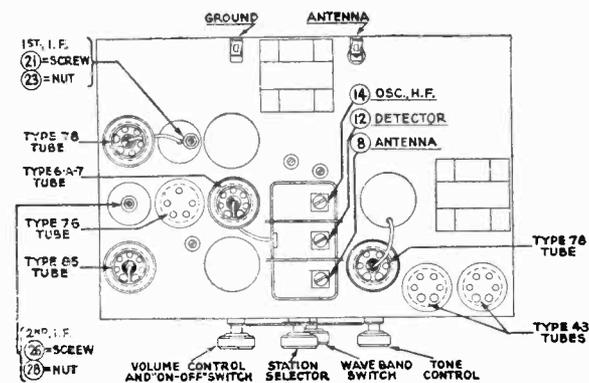

Fig. 2—Top View
Set the wave switch of the Signal Generator at 260 K. C., and the dial of the receiver at 550. Turn on the set (volume full on), and the Signal Generator. Now adjust the 1st I. F. Primary and Secondary condensers (Nos. ② and ③ in Fig. 2) and the 2d I. F. primary and secondary condensers (②⑥ and ②⑦) to give maximum reading on the output meter. The I. F. primary condenser is adjusted by turning the screw on top of the I. F. transformer and the secondary is adjusted by turning the nut. The I. F. transformers are in the smaller metal "cans". The screw and nut are reached through the hole in top. If the needle on the output meter goes off the scale, turn down the "attenuator" on the Signal Generator until a lower reading is obtained.
located on top of the tuning condenser gang (See Fig. 2) adjustment made by means of the fibre wrench. Set the signal generator at 1500 K. C., tune in the signal at 1500 on dial and adjust these condensers in the order given, to give maximum output reading. ⑧ is located on the section nearest the front and ⑫ on the center section.